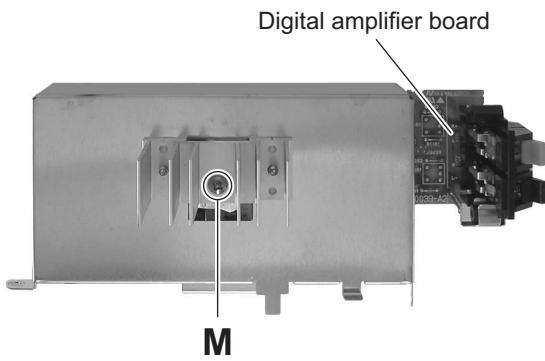

Fig.13
(See Figs.13 to 18)
- (1) From the forward side of the digital amplifier board assembly, remove the screw **M**. (See Fig.13.)